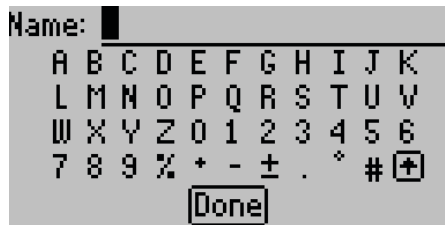

Figure 2 Name screen
- b. Highlight letters and press **Enter** after each one (Figure 2).